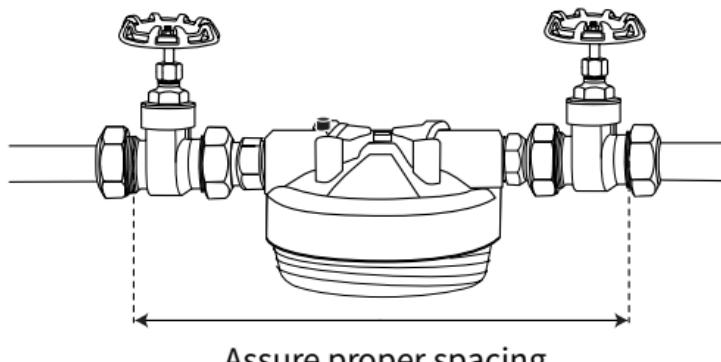

Figure 2
4. If using shut off valves, loosely fit them on both sides to calculate proper spacing of components. Measure distance and mark pipe accordingly (see Figure 2).